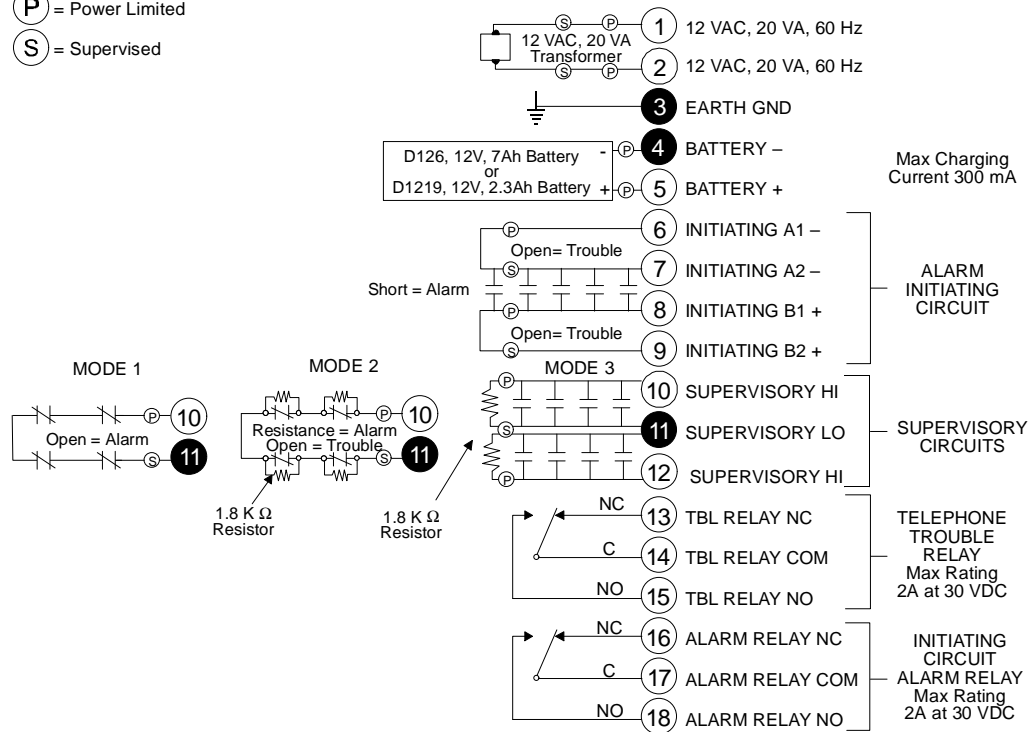
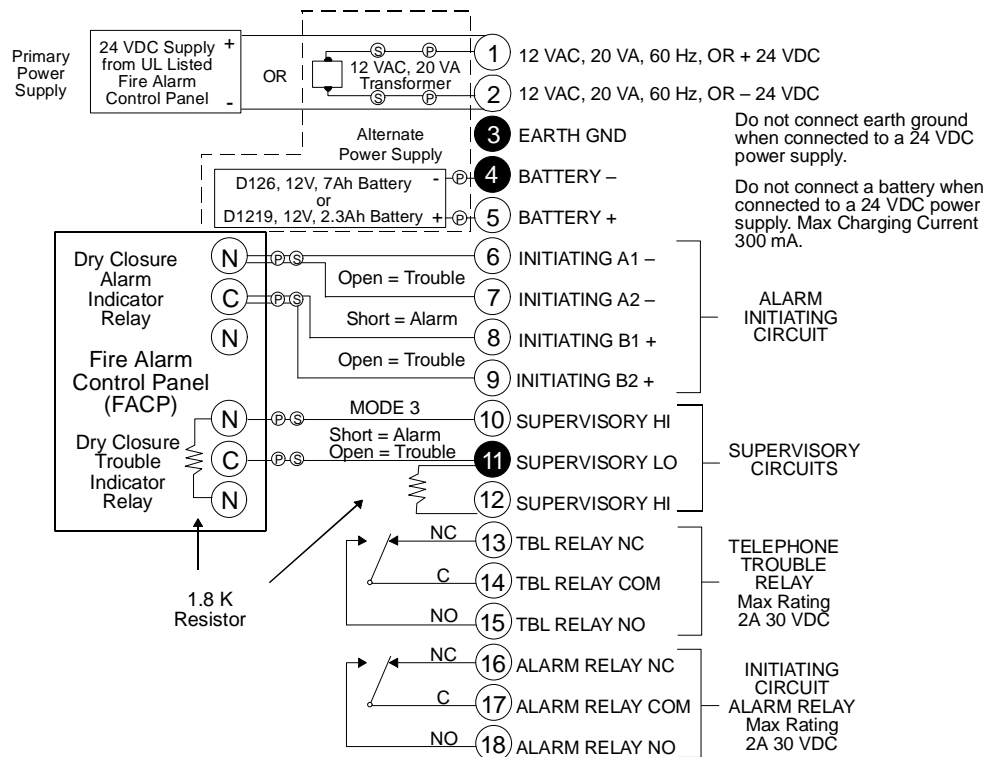

Figure 2: Stand-Alone Installation
Figure 3: Slave Communicator Installation
Follow the instructions in the sub-sections below to install the D2071A. Be aware that some terminals are wired differently for the stand-alone (Figure 2) and slave (Figure 3) applications.
Unlike the two wire Class B (NFPA Style A) circuits that are supervised by end-of-line resistors, the double loop Class A (NFPA Style D) circuit provides alarm response from all initiating devices with a single open or ground fault condition on the circuit. Connect initiating devices to the D2071A as shown in Figures 2 and 3.
Connect the normally-open contacts of each waterflow switch (maximum of 5) or mechanically activated initiating device to the Alarm Initiating Circuit in parallel as shown in Figure 2.
- 1) Connect the Alarm Initiating Circuit to an alarm indicator output (normally-open, dry closure) on the FACP (see Figure 3).